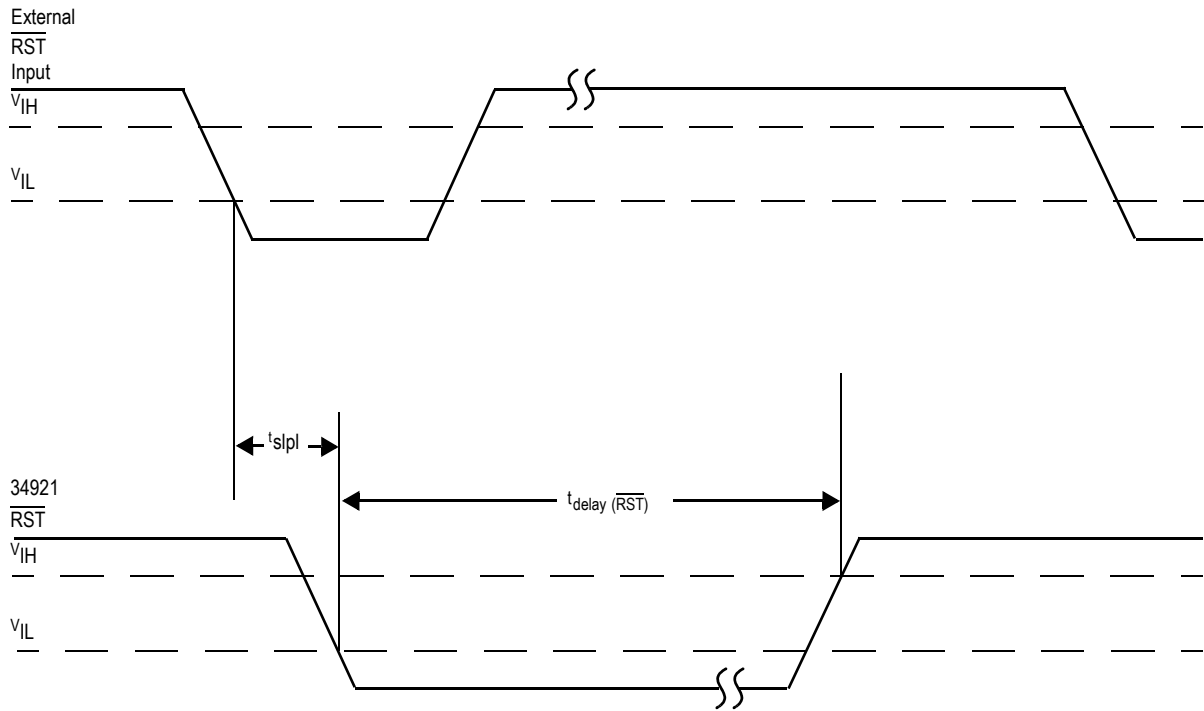

Figure 6. \overline{RST} Timing
25. See Figure 6, RST Timing, page 17.